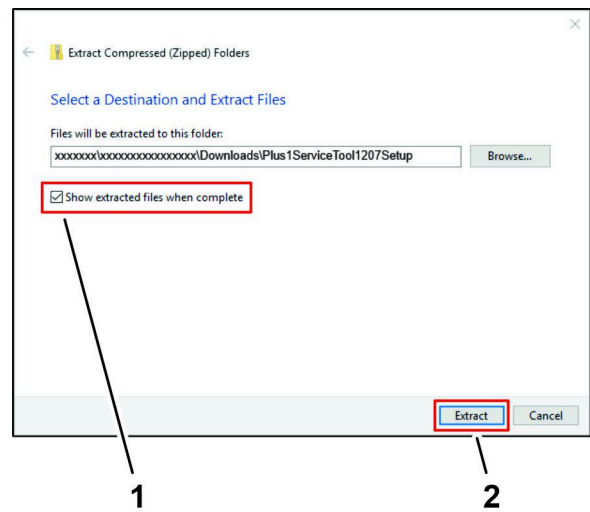

Figure 20
2. In the Extract Compressed dialog box, ensure that the SHOW EXTRACTED FILES WHEN COMPLETE check box is selected, and click the EXTRACT button (Figure 20).